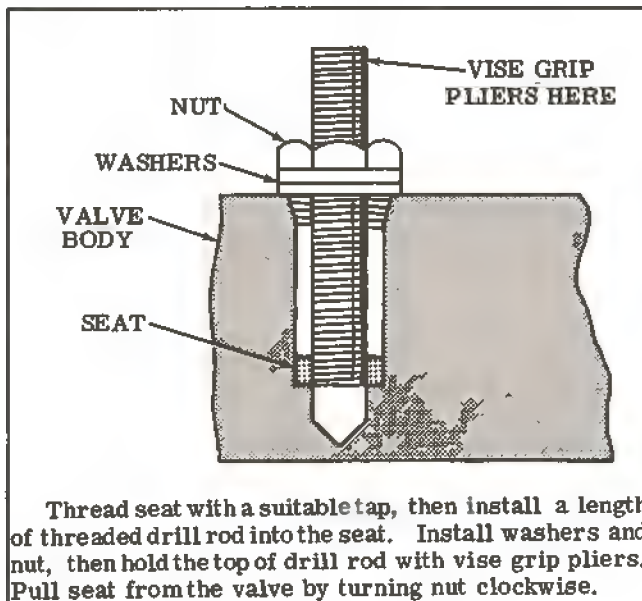

Figure 4. Removal of Seat
2. Inspect torque motor (10) for contamination (Ferrous wear particles binding the armature). Inspect torque motor coils for continuity (use the volt-ohm meter). Replace the torque motor if contaminated, or coils are open. DO NOT attempt repair of the torque motor.
3. Inspect metering spool (12) and hydrostat (20) for excessive wear, galling, erosion, and burrs. Remove burrs with an India stone. If either of the spools are defective, check body (30) bores for similar defects. Replace defective parts.
4. Inspect check valve (26) for excessive wear, erosion and burrs. The seat contact area of the valve should have a bright circular contact area. Leakage paths across the check valve will show up as a break in the bright circular area. Erosion of the seat area may also cause a leakage path to develop. If seat (27) requires removal, tap seat with an appropriate thread, then install a length of threaded drill rod into the seat. Remove seat from the valve body. See figure 4.